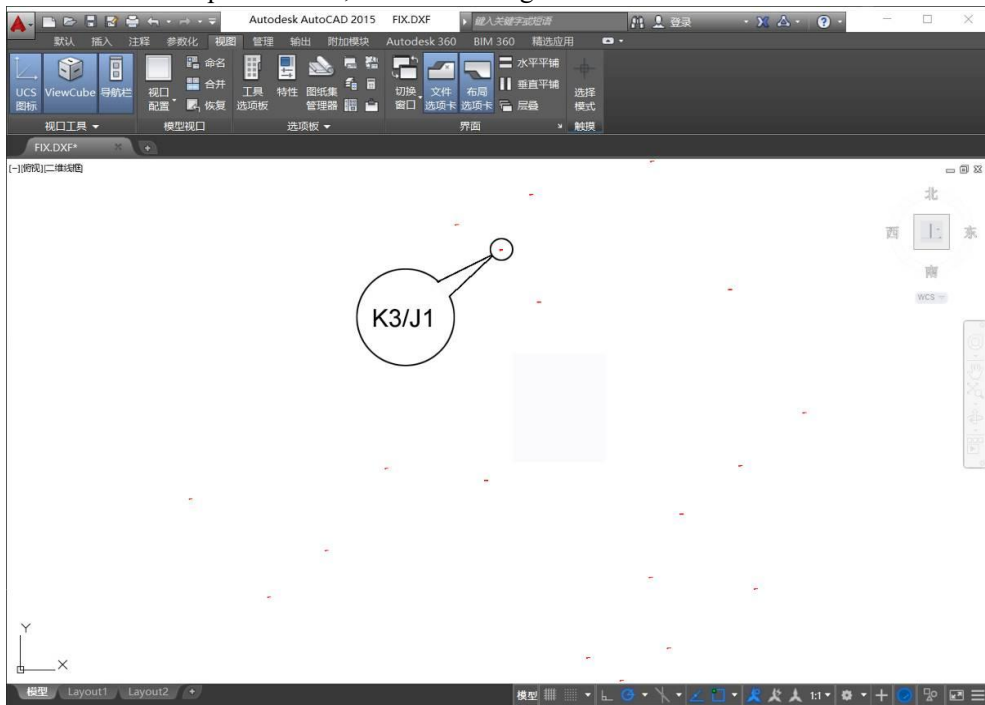

Figure 2-38 Open the graphics interchange file FIX.dxf of the SD card in AutoCAD
Figure 2-38 shows the interface of opening the file FIX.dxf with software AutoCAD. After opening the file, execute the command of zoom "zoom/e" to see the full picture. The text of dot notes is "Name of the point/Code", as shown in Figure 2-38.
② Export the current file to the SD card: In the function menu on page P3 of Coordinate Measurement, press **F3** (File) **F2** (LIST) **F3** (EXP.) to export the current file "180105_FYD" to five files in the root directory of the SD card. Extension dxf means a graphic exchange file, which can be opened with AutoCAD and saved as a dwg format file, as shown in Figure 2-38.